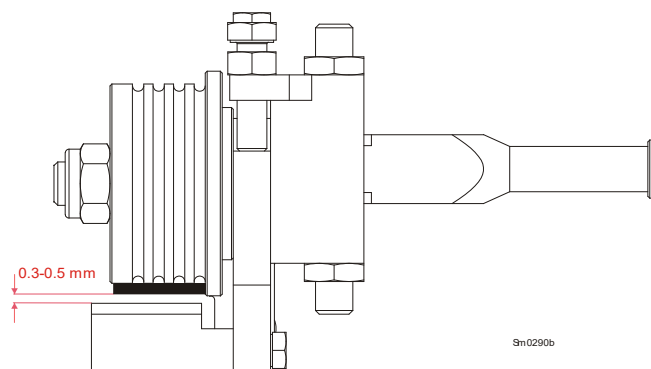

FIG. 5-28
**See Figure 5-28.** The gap between the disc and the blade should measure 0.3 - 0.5 mm.